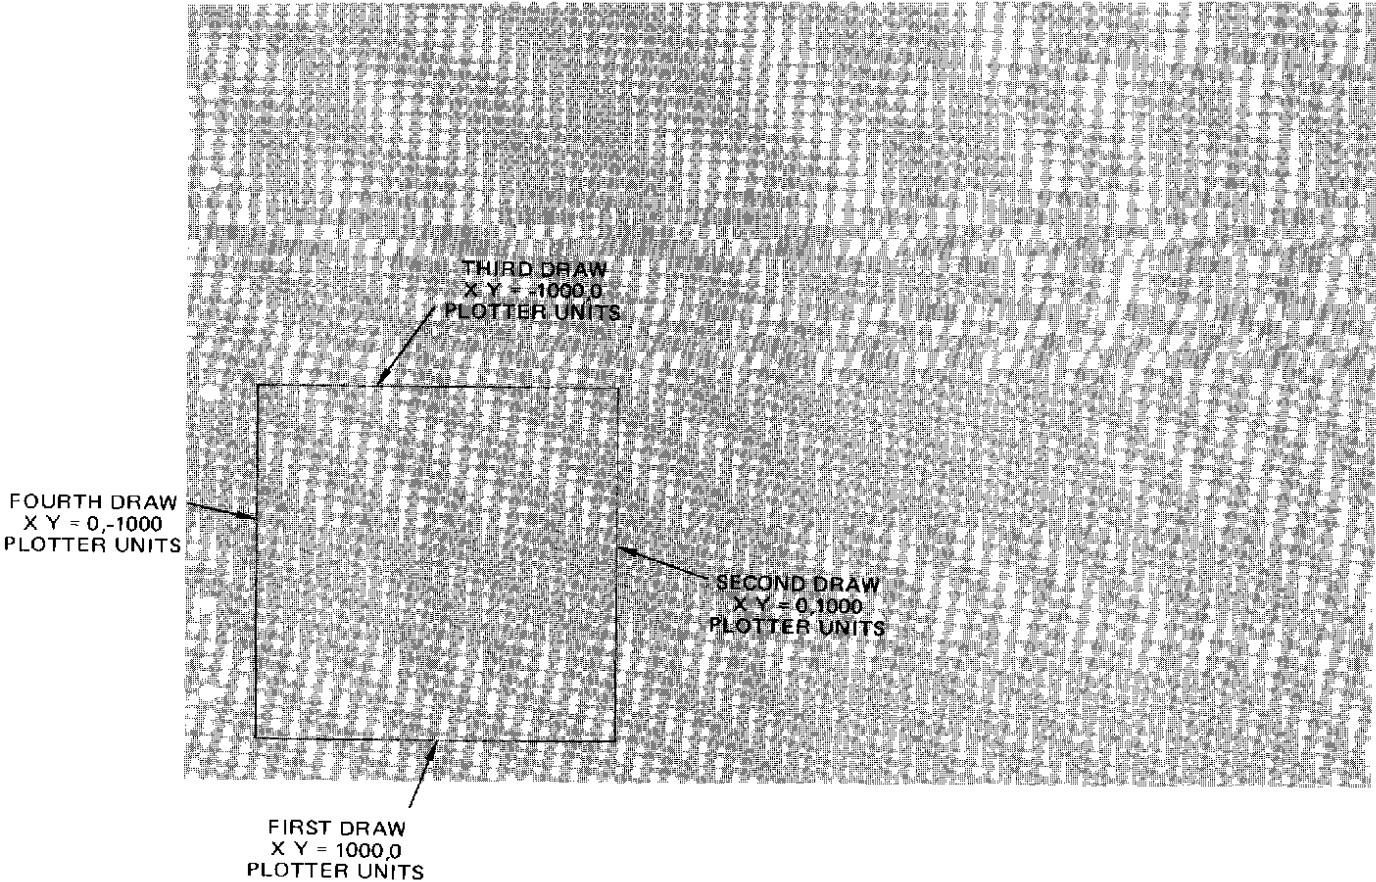

Figure 4-9. Performing Successive Incremental Draws
**Result** A square, 1000 x 1000 plotter units, is drawn as shown in Figure 4-9.